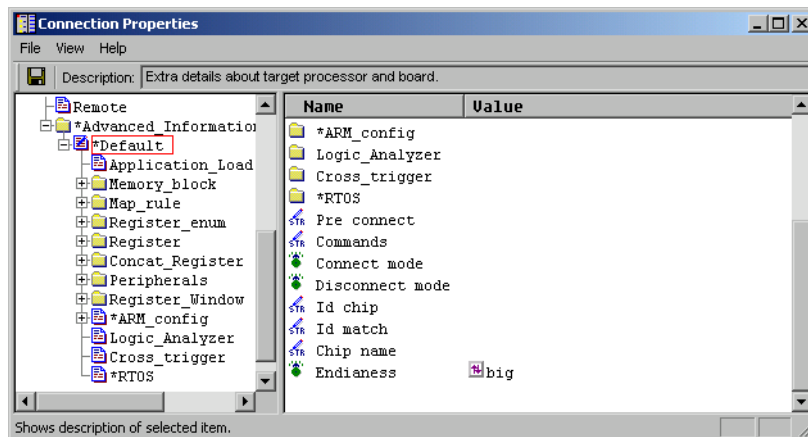

Figure 3-8 Default group in the Connection Properties window
4. Double-click on the Default group, in the right pane, to see the Connect_mode and Disconnect_mode settings, shown in the example in Figure 3-8.
As shown in Figure 3-8, configure connection behavior in your board file using the settings: